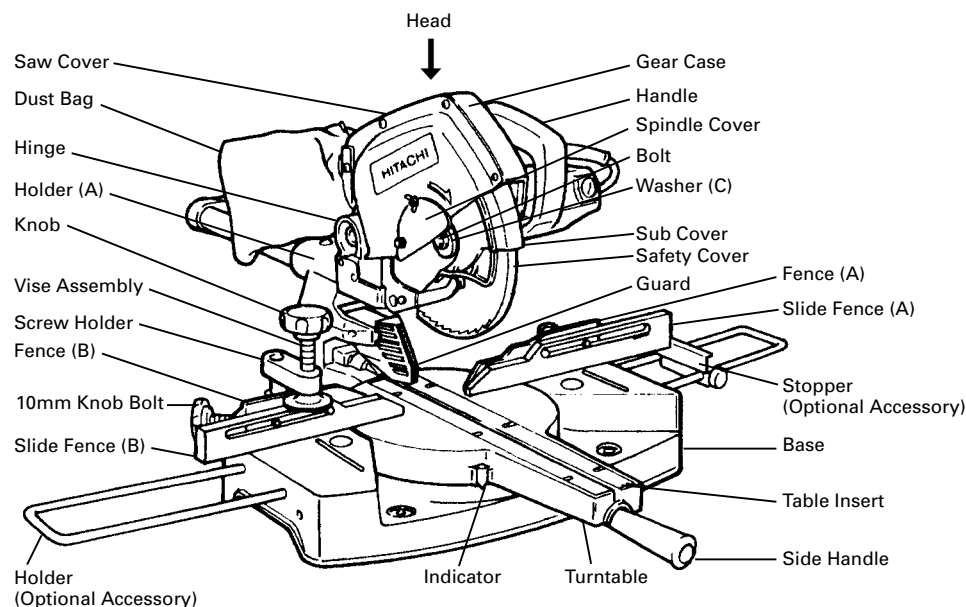
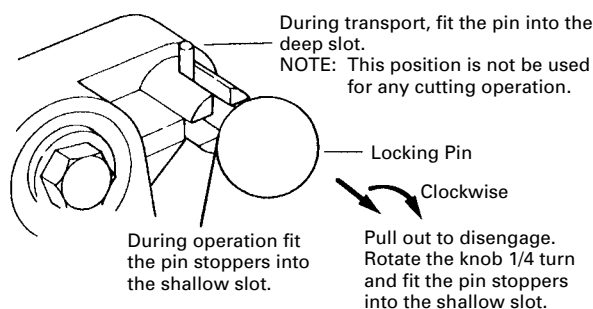

Fig. 1
Fig. 6-b
When the power tool is prepared for shipping, its main parts are secured by a locking pin. Move the handle (see Fig. 1) slightly so that the locking pin can be disengaged and adjusted as indicated in Fig. 6-b.
**NOTE:** Lowering the handle (see Fig. 1) slightly will enable you to disengage the locking pin more easily and safely.
Attach the dust bag, holder, stopper and vise assembly, slide fence (A) and slide fence (B) as indicated in Fig. 1.